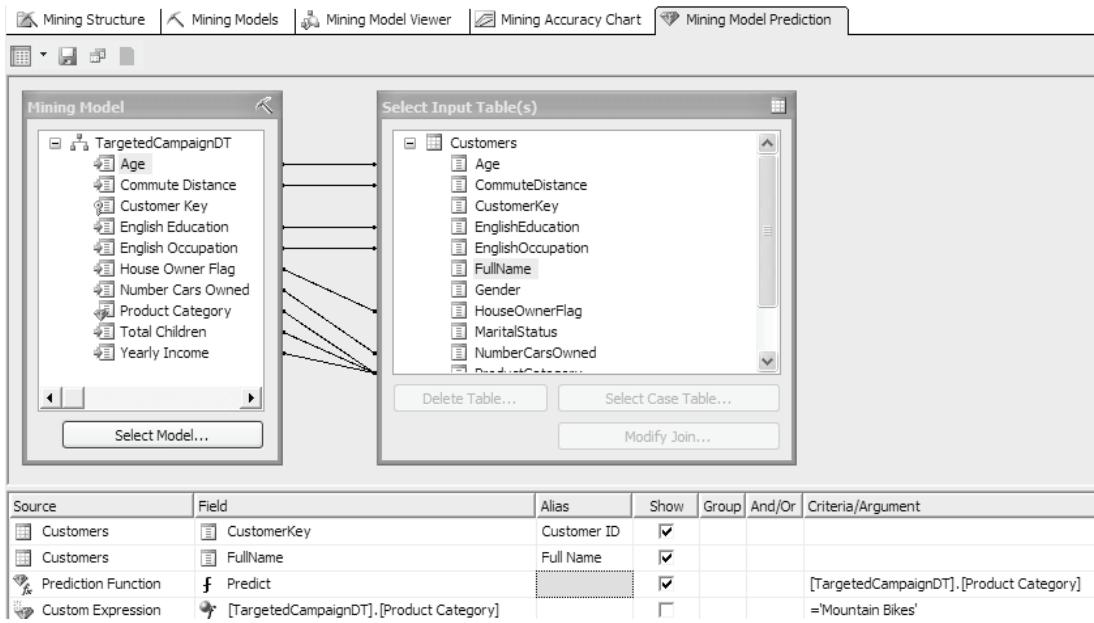

Figure 7.27 Use the Mining Model Prediction tab to build and execute a prediction query.
1. Click on the Mining Model Prediction tab (Figure 7.27).